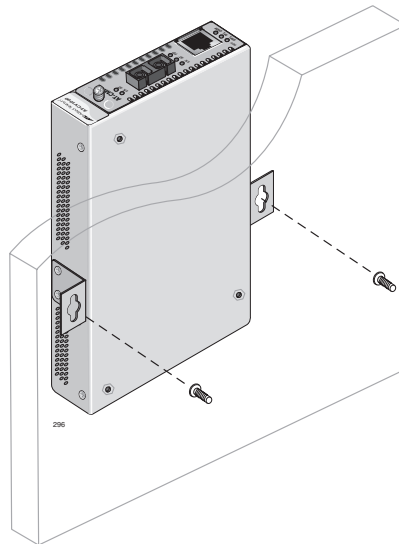

Figure 10. Positioning The AT-CV1000 Chassis Onto the Wall Screws
7. Position the chassis vertically onto the wall screws, as illustrated in Figure 10, and slide it down to secure the brackets against the wall.